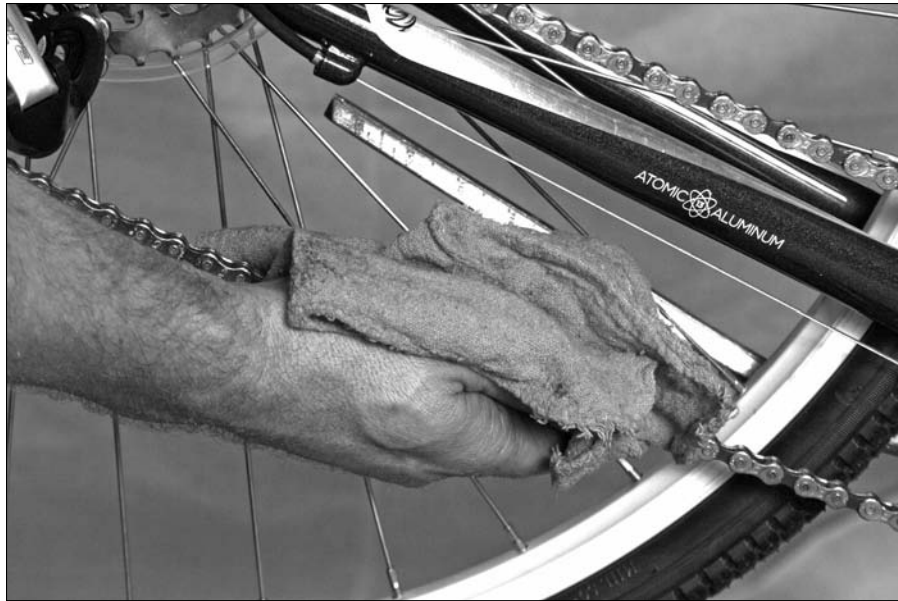

Figure 10-9:
5. **Wipe off any excess lubrication using a clean rag, as shown in Figure 10-9.**
8. Wipe off any excess lubrication using a clean rag (refer to Figure 10-9).